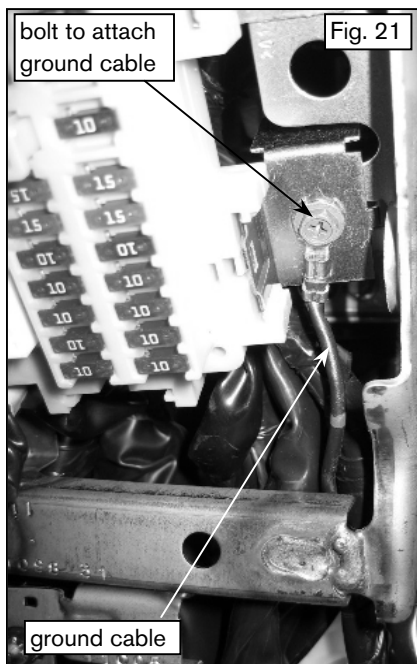

Fig. 21
(10) Take the ground wire tapped off of the N-bus harness and route towards lower bolt securing the fuse panel. Fig. 21
(11) Use an 8mm socket to remove the bolt. Insert the eyelet connector. Tighten the bolt back down to secure the eyelet. Fig. 21